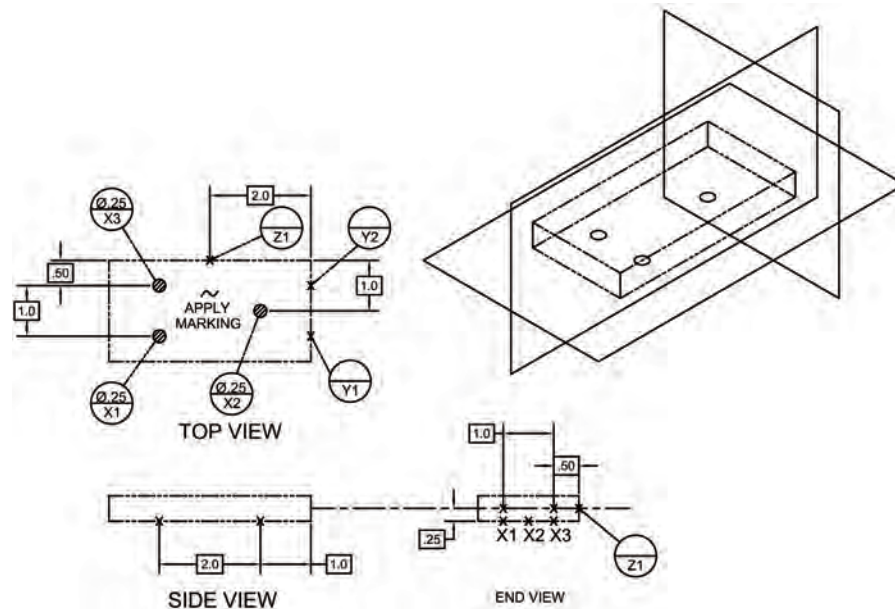

Figure 5-6 Target sizes & locations.
Datum targets are datum simulators such as spherical pins or round flat bottom pins or three (3) jaw chucks or centers that establish datum planes or a datum axis. They contact the datum features and are often specified to be used for inspecting parts that are inherently not round or straight or flat or they are large parts. If targets are not used then the entire datum feature has to contact a datum simulator. An example of what can result is the part could “rock” on a surface plate if the part was not relatively flat which would result in an unstable scenario and conflicting results. If the datum feature is large a datum simulator that contacts the entire feature may not exist or would be extremely expensive to produce. The datum targets are the datum planes and datum axis and often are assembled together to create an inspection fixture and or a manufacturing fixture. See Fig. 5-6 for Datum Target Sizes & Locations.